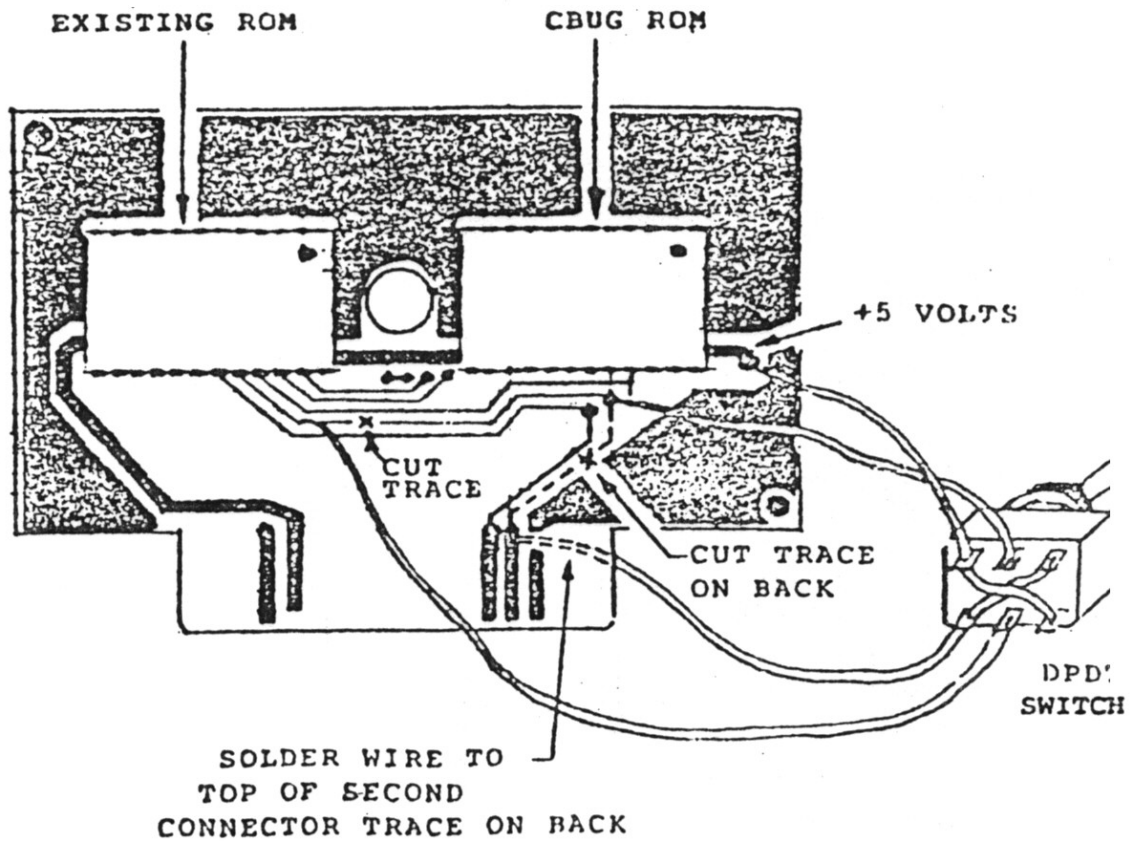

FIG. 2
5. To be able to switch between the two ROMs, use a double-pole double-throw switch as in figure 2. The chip-select signal which originally went to both pin 20s must be switched between them, while the other pin 20 must be connected to +5 volts.